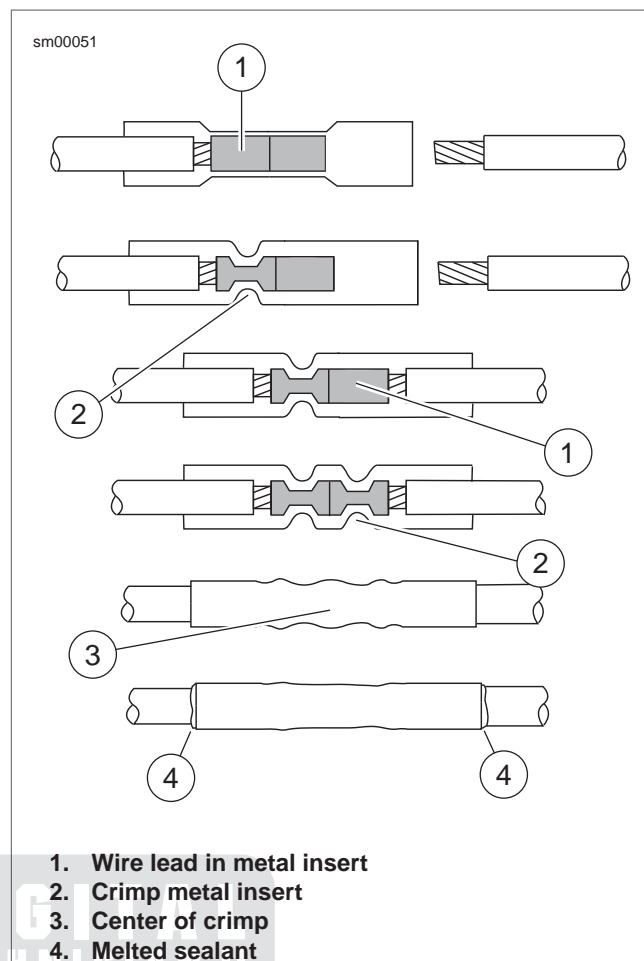

Figure A-47. Sealed Splice Connector
See Figure A-47. The connector is crimped twice - one side and then the other.
- See Figure A-47. Feed the stripped end of a wire into the connector until the wire stops inside the metal insert (1).
- Squeeze the handles tightly closed to crimp the lead in the insert (2). The tool automatically opens when the crimping is complete.
- Slide the connector to the other half of the metal insert. Insert the stripped wire lead (1) until it stops, and crimp the lead in the insert (2).
See Figure A-47. Allow the splice to cool and inspect the seal. The insulation should appear smooth and cylindrical. Melted sealant will have extruded out the ends (4) of the insulation.